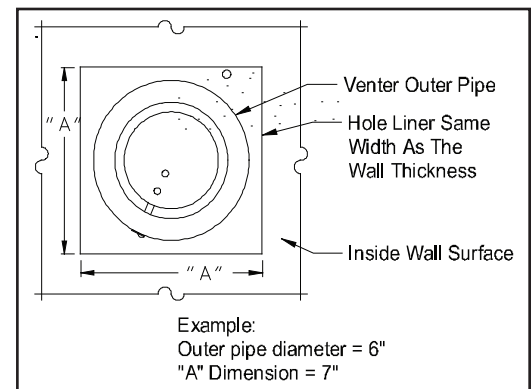
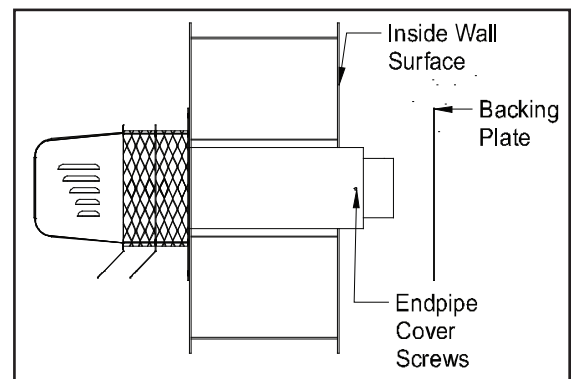

Figure 1
Figure 3
3. After determining the location of the venting system termination point (See Diagram A), cut a square hole through the wall 1" larger than the outer pipe diameter of the power venter. (See Figure 1)
4. Seal the back side of the base plate around the outer pipe of the venter and the conduit with a bead of high temperature silicone sealant. (See Figure 3) Mount the power venter through the wall, keeping the outer pipe centered in the hole. (See Figure 1) Fasten the power venter to the outside wall with appropriate fasteners. Seal the edges of the power venter base plate to the wall with a high temperature silicone sealant.
- NOTE: If mounting the power venter through a combustible wall material and the flue gas temperature is above 400°F at the power venter inlet, line the square hole with a piece of corrosion resistant sheet metal or non-combustible material. The liner piece should be the same width as the wall section. (See Figure 1) The power venter has a maximum flue gas temperature of 550°F at the venter inlet. For installation through walls over 8" thick, use an SWG Series Extension Kit, Model PEK-4HD.
5. Remove the end pipe cover screws on the sides of the outside pipe and remove end pipe cover. Then mount the backing plate over the outer pipe and route the flexible conduit and pressure switch tube through the holes provided in the backing plate. Fasten the backing plate to the inside wall with appropriate fasteners. (See Figure 3) Re-install cover and end pipe screws.